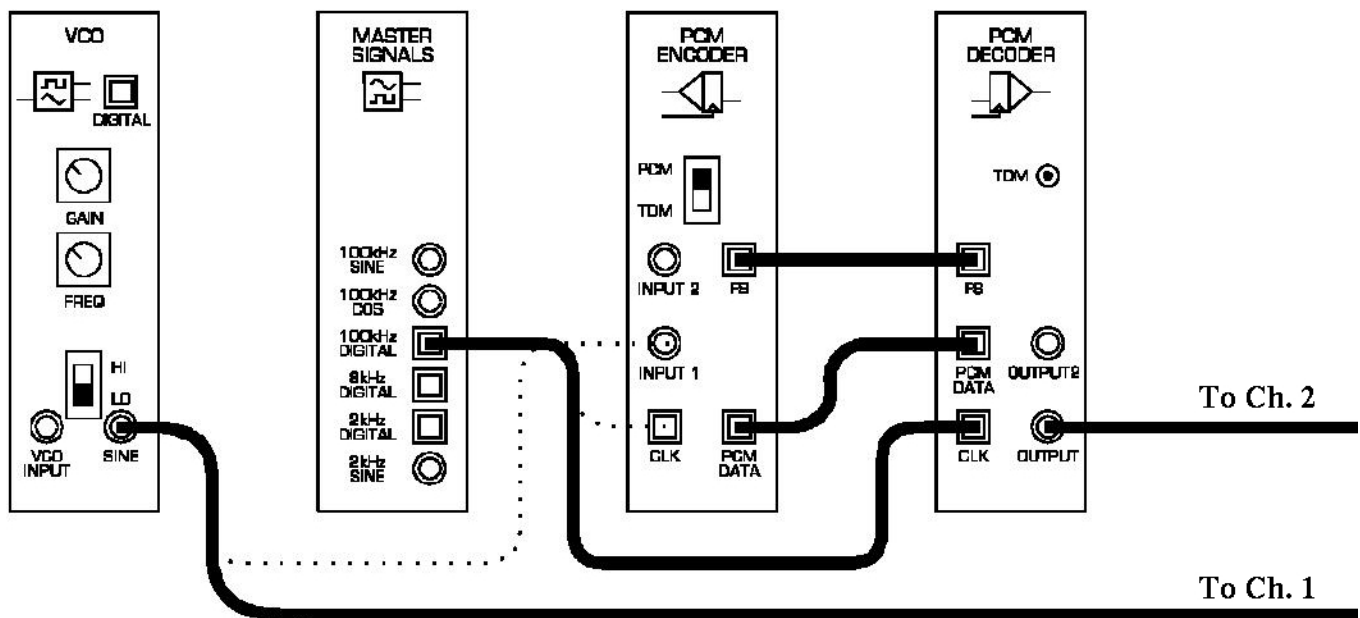

Figure 7:
2. Modify the set-up as shown in Figure 7.